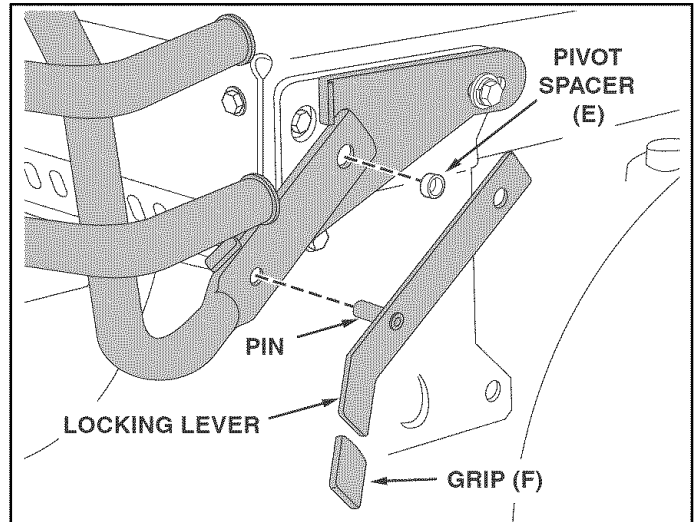

FIGURE 5
STEP 5: (SEE FIGURE 5)
- Assemble plastic grips (F) onto locking levers.
2. Insert pivot spacers (E) into rear holes in bumper.